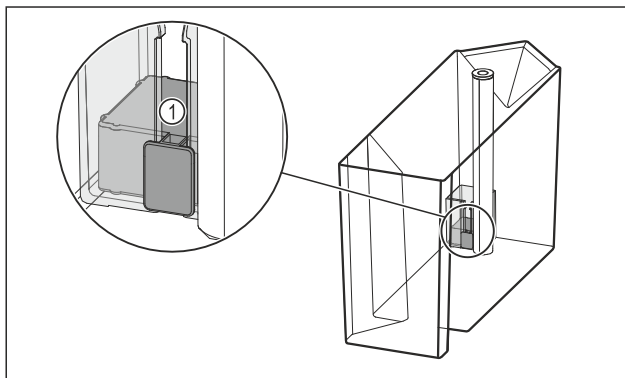

Fig. 100
- ▶ Check whether the swimmer *Fig. 100 (1)* is stuck. If the swimmer is stuck: